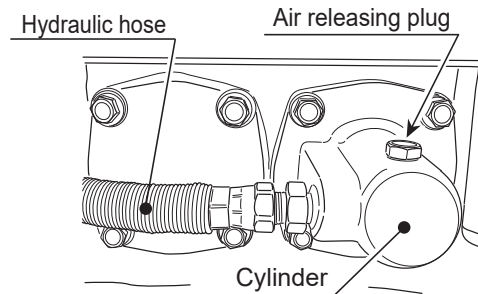

Fig.9-10
- 2 After the oil is drained, attach the hydraulic hose again to the cylinder on the vibrator side. (Fig.9-10)
- 4 Remove the air vent plug of the cylinder of the vibrator side. After a while oil will come out, so plug bubbles will be installed when bubbles run out. Please firmly tighten. (Fig.9-10)